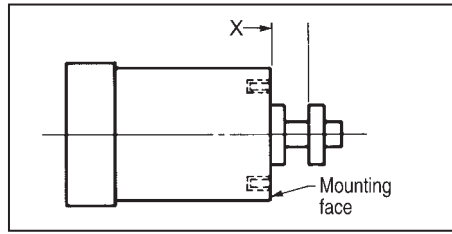

Figure 1
1. To remove housing (7), unscrew four 3/8-19 nuts (supplied by customer) which secure the brake and motor combination and to the mounting flange of the reducer. Grasp brake and motor combination and pull free from reducer. Save brake output shaft key for reuse or replace if worn. Pull housing and shaft assembly (7) free from mounting studs (128). These mounting studs are threaded into motor C-face and should be left installed.
2. Using suitable bushing or tubing against inner race, press ball bearing (7B) over bearing turn (BT) of new shaft (35) until seated against shaft flange.
3. Remove old retaining ring (7R) from groove inside housing. Old shaft (35) and bearing (7B) can now be removed together by pushing on the shaft end inside of housing (7). Discard the old shaft and bearing.
4. Clean bearing pocket in housing to remove any foreign material – chips, dirt, etc. Slide new shaft and bearing combination (35 and 7B) into housing, (7) with solid shaft end extending outboard from housing mounting face. Seat bearing against shoulder and secure by installing retaining ring (7R).
5. Slide brake assembly (2) from studs (128) and remove hub (16 or 16A) and key (16S). Observe position of solenoid so that assembly is installed in same position.
6. With key (35K) in place on motor shaft, position new hub (16) on the shaft per Figure 1. Key must be flush with the end of the shaft. Securely torque both set screws (16S). Tighten to 78 in-lbs on 1/4" diameter set screws and to 156 in-lbs on 5/16" diameter set screws. Place brake assembly (2) onto studs, rotate hub so that friction disc(s) slide over it freely, file I.D. of friction disc(s) if necessary. Seat assembly against motor face.